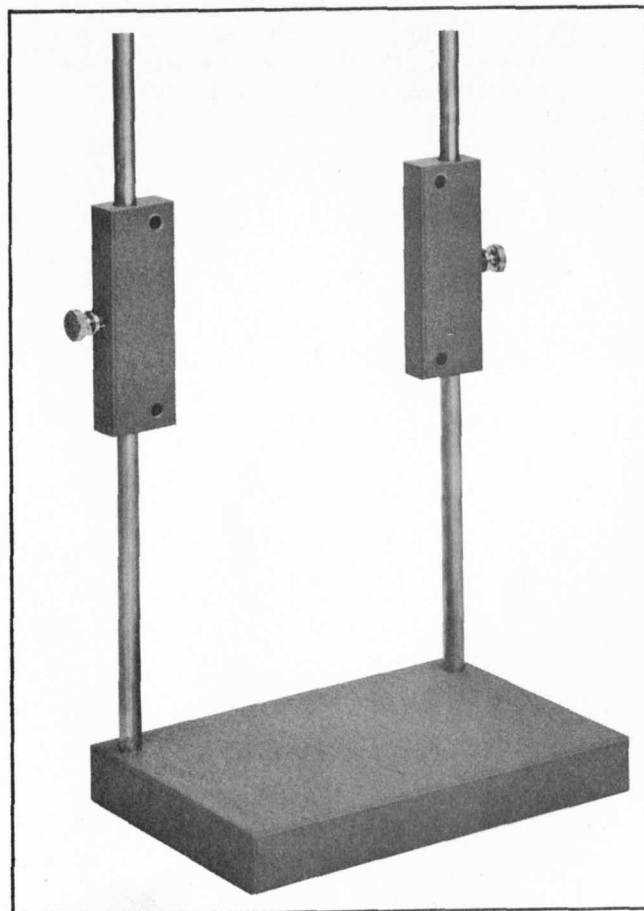

Figure 2-2. Assembled 11505A Bench Stand
- c. Insert the two rods supplied with the bench stand into the holes in the stand. Tighten the screws at the rear of the stand to secure the rods (see figure 2-2).